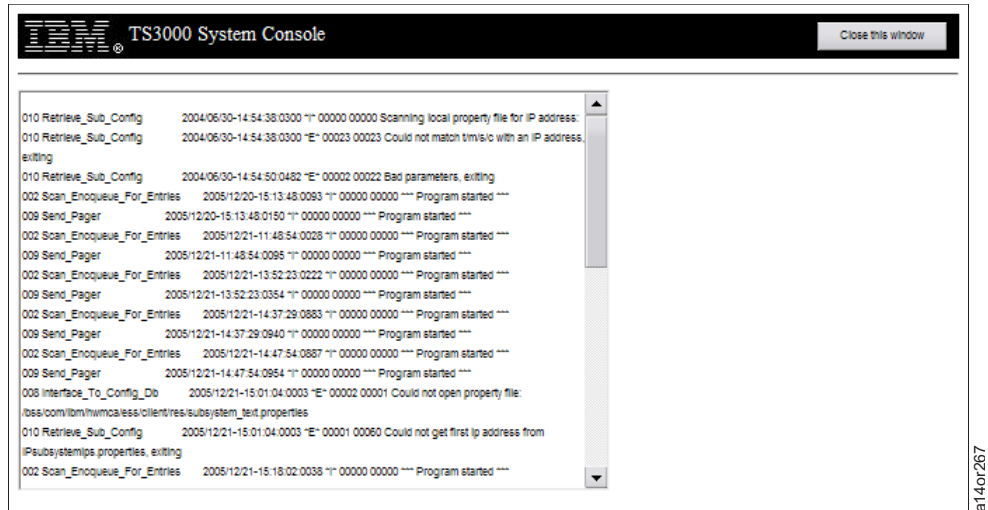

Figure 221. Message File Screen
2. Click **Display Message File** to view the message file. You see Figure 221 on page 175.